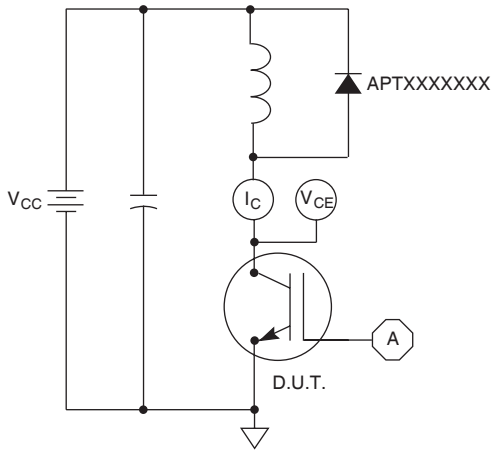

Figure 21, Inductive Switching Test Circuit
⑤ E_{on2} is the clamped inductive turn-on energy measured in accordance with JEDEC standard JESD24-1. (See Figures 21, 22.)
⑥ E_{off} is the clamped inductive turn-off energy measured in accordance with JEDEC standard JESD24-1. (See Figures 21, 23.)